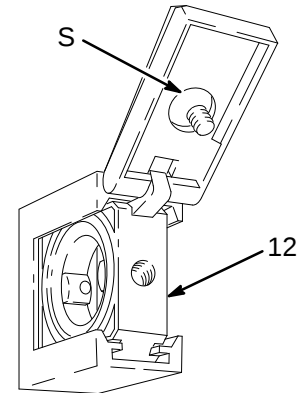

Fig. 2
To open the quick connector (12), loosen the captive screw (S) and open the connector. Slide the desired component into the connector, close, and tighten the screw. See Fig. 2.